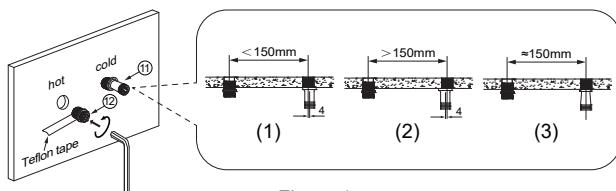

Figure 1
- Install and adjust the curved connector (Figure 1). Wrap the teflon tape anticlockwise on the thread of the G1/2 end of the curved connector. Connect the curved connector to the cold water pipe. Turn and adjust the curved connector to ensure the distance between the centre of hot water pipe and the centre of the curved connector is 150mm.